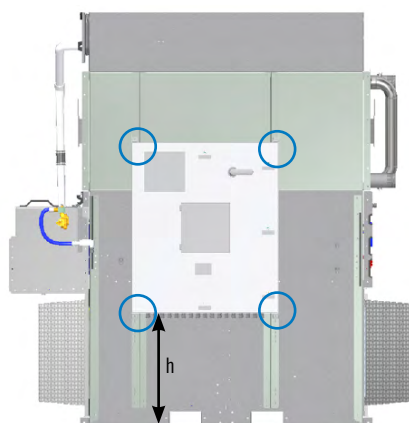

Figure 9c. Control Panel Mounting Height
2. Attach the control panel using the mounting holes at each corner. Ensure the dimension from the bottom of control panel to the bottom of unit is correct following the **Table 4** "H" dimension (see **Figure 9c**).